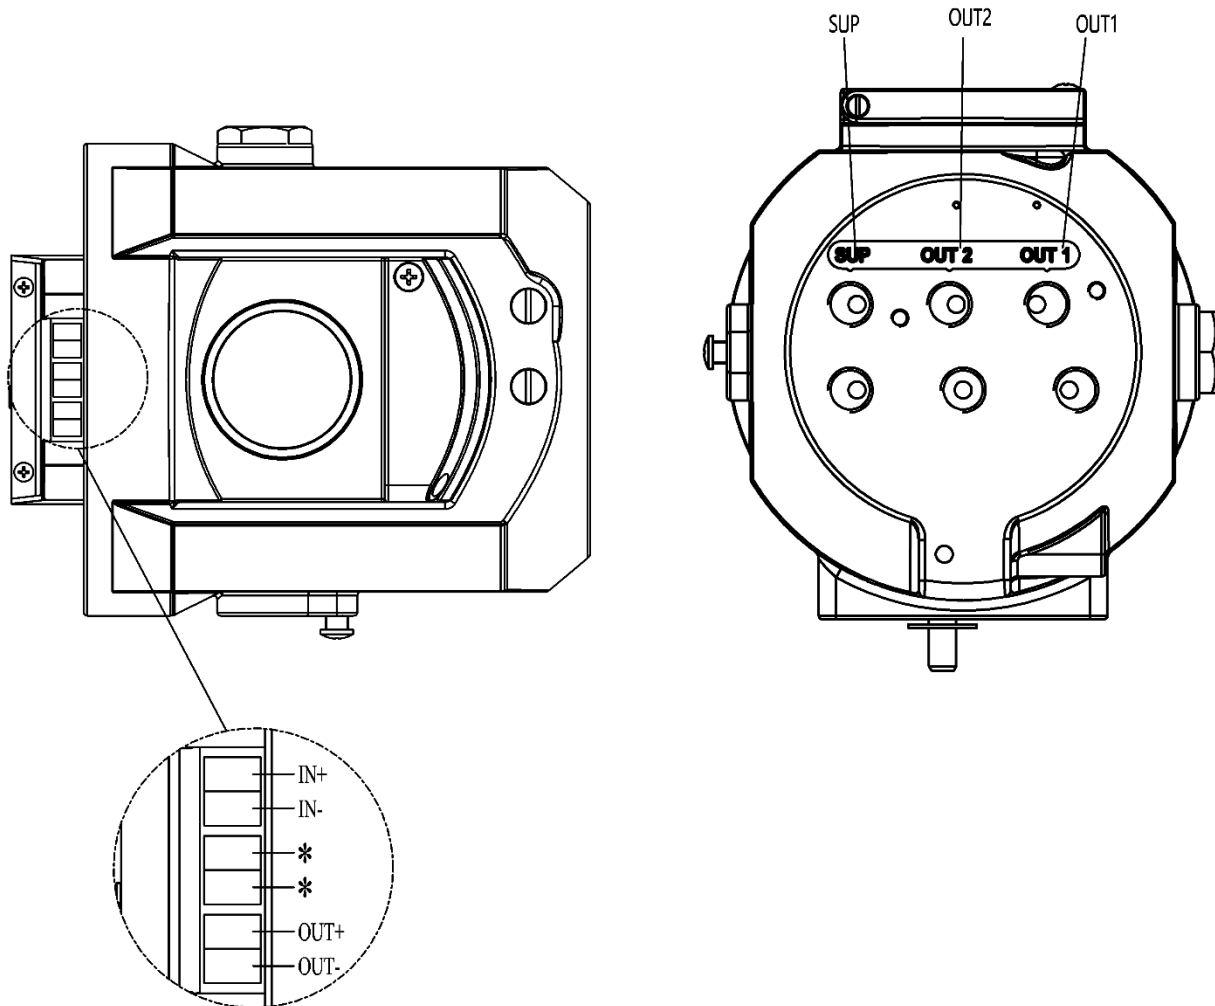

Figure 1. Connection description
- **If the no-load voltage of the input signal is between 11-15V, the positioner needs to be set to low impedance mode to avoid attenuation of the input signal. Connect the two undefined electrical interfaces marked with * in Figure 1 to each other through one wire to make the positioner in low impedance mode.**